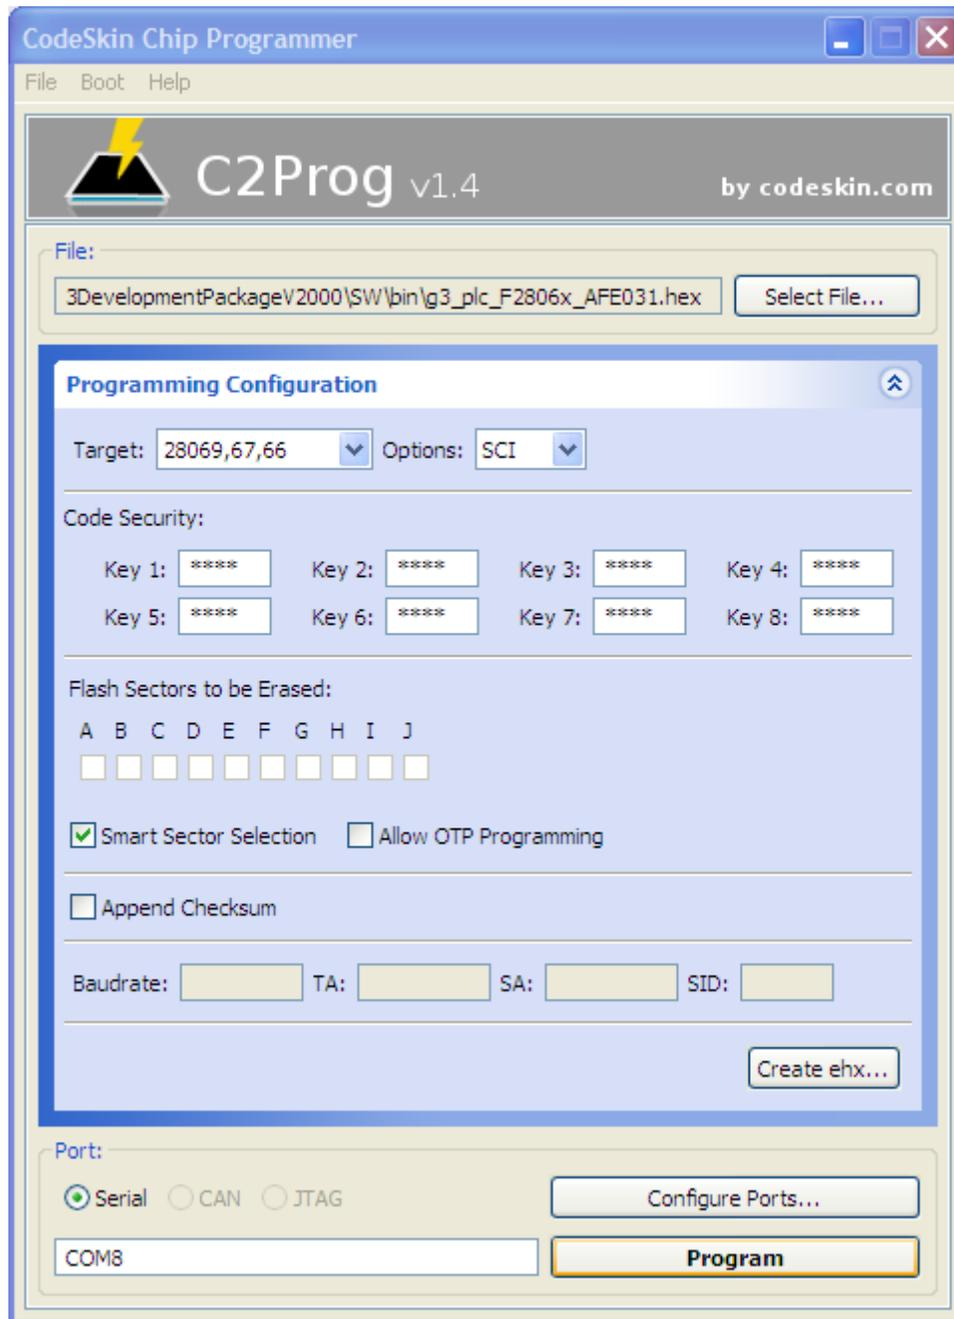

Figure 5. Selecting PLC-Lite Binary to be Flashed (via SCI)
6. Program the *.hex (located in c:\Texas Instruments\<PackageName>\SW\bin) as shown in Figure 5. If the UART cable is used, select serial port. Otherwise, if the USB serial cable is used, select JTAG port.